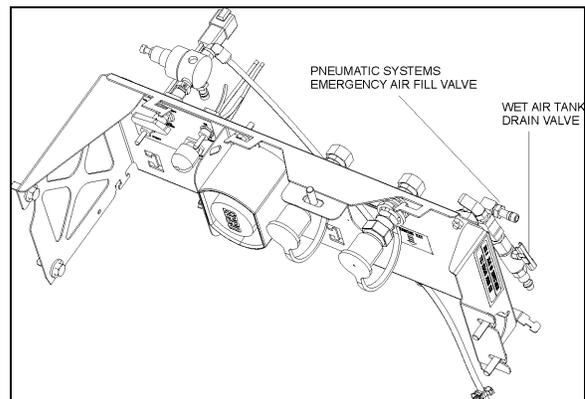

FIGURE 44: REAR VALVE LOCATION ON H3 SERIES
A remote valve located in engine compartment and accessible through engine R.H. side door is used to **purge daily** (Figure 44).
**The rear valve** is located in engine compartment and accessible from engine R.H. side door (Figure 44).